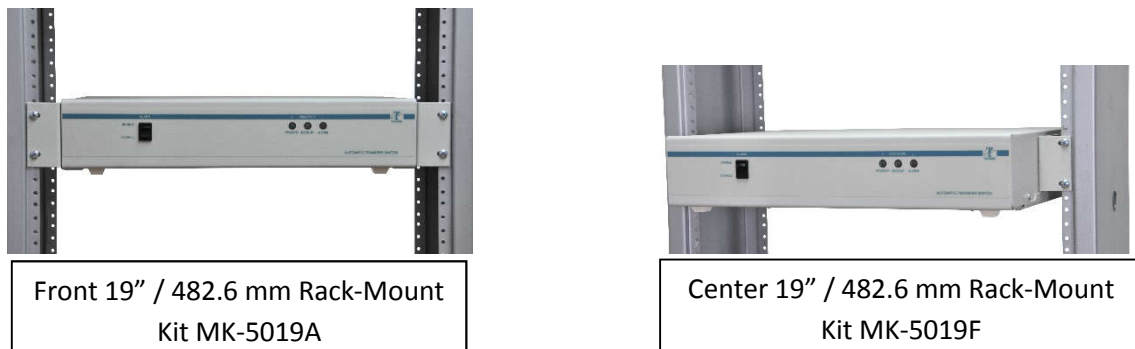

Figure 14: Two 19" / 482.6 mm Rack-Mounting Options for ATS Series
3.51 After the unit has been unpacked and inspected, attach any rack mounting brackets that may have optionally been ordered to the ATS. Mount the ATS to the desired location on the rack using the #10-32 UNF that have been provided (see Fig 14 for Front and Center Rack-Mount Kits – MK5000C for Wall or Floor mount Kit not shown). If customer has metric equivalent rack holes, M5X.8 screws should be used. If rack mounting brackets have not been ordered, place the unit at the desired location near the load.